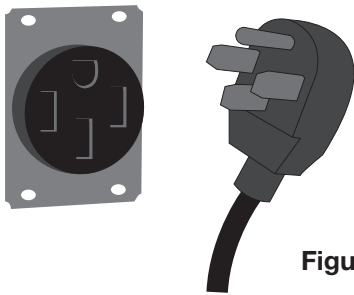

Figure 29
- 1 Units include standard NEMA 14-50P plug. (See Figure 29)